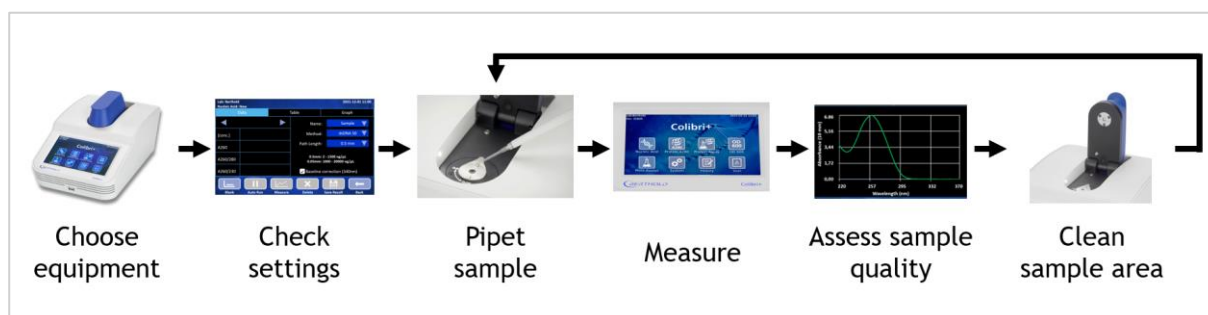

Figure 1: graphical representation of the workflow in a typical DNA quantification.
- ▣ **Sample Guide Light:** Your measurement starts with applying the sample. The innovative Sample Guide Light simplifies pipetting, even in poor light conditions (figure 1).
Figure 1: The Sample Guide Light enables easy sample application and helps you to detect even the smallest air bubbles. As a result, the quality of the measurement is significantly improved.